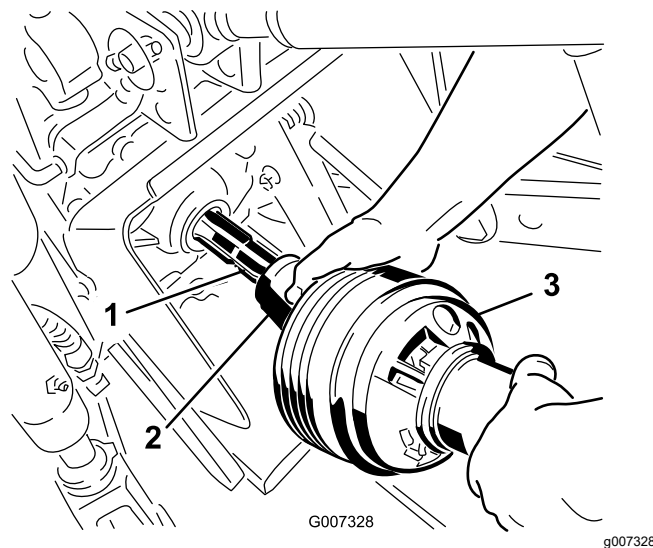

Figure 12
4. Assemble the outer PTO driveshaft section to the traction-unit PTO output shaft (Figure 12).
- 9. Assemble the outer PTO driveshaft section to the PTO shaft of the traction unit (Figure 12).